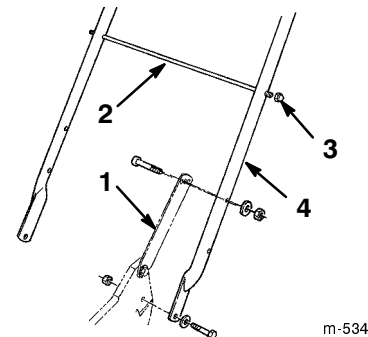

Figure 2
2. Secure the handle latches to the handle with two 5/16-18 x 1-1/2 in. cap screws, washers, and nylon insert locknuts (Fig. 2).
3. Slide the bag support rod through the **top** mounting holes in the handle and secure each end with a cap locknut (Fig. 2).